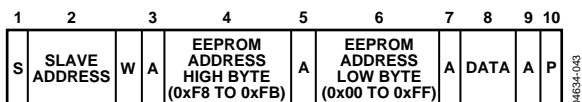

Figure 33. Single Byte Write to the EEPROM
- To write a single byte of data to the EEPROM. In this case, the command byte is the high byte of EEPROM Address 0xF8 to EEPROM Address 0xFB. The first data byte is the low byte of the EEPROM address, and the second data byte is the actual data, as shown in Figure 33.